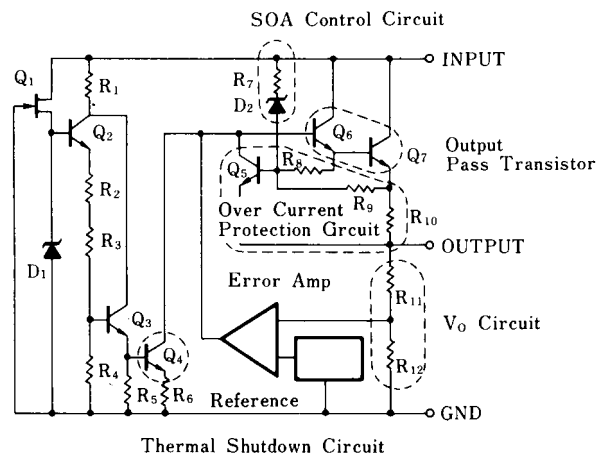

Fig. 1 NJM7800/78M00/78L00 Series Circuit Function
(1) Positive Voltage 3-Terminal Regulator (Fig.1)